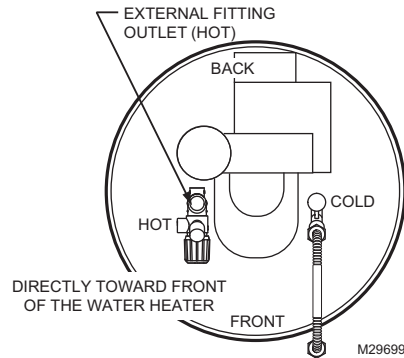

Fig. 6. Install mixing valve.
3. Install the AMX300 mixing valve onto the water heater's hot water outlet. If installing on a water heater with 1-in. outlet fitting, use 1-in. FNPT to 3/4-in. MNPT brass reducer bushing and brass nipples. Tighten until leak tight and facing the front of the water heater as shown in Fig. 6.